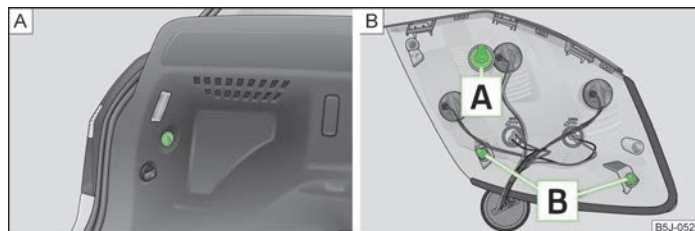

Fig. 154 Remove the rear light/install the tail light assembly:
- Hold the tail light assembly in the installation position with one hand, and remove the plastic nut » Fig. 154 - **A** with the other.
- To re-install the tail light assembly, first of all guide it with the screw **A** into the opening of the bodywork » Fig. 154.
- Hold the tail light assembly with one hand, and attach and tighten the nuts » Fig. 154 - **A** with the other hand.